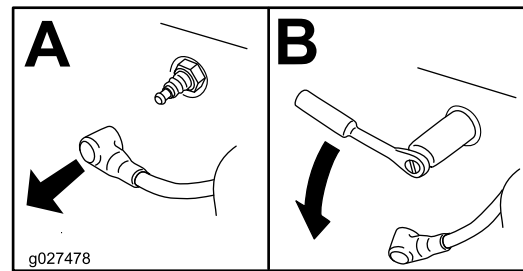

Figure 38
4. Remove the spark plug (Figure 38).